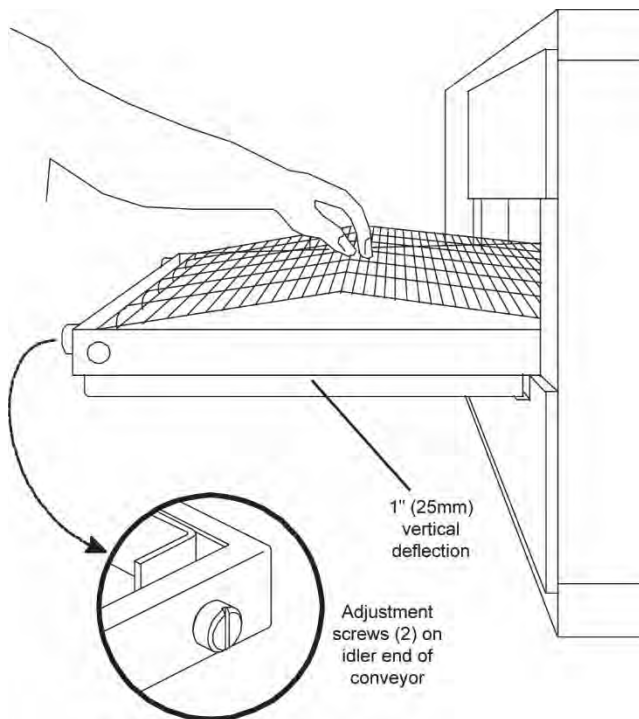

Figure 16. Conveyor Belt Tension
4. Check the tension of the conveyor belt as shown in Figure 16. The belt should lift about 1" (25mm). **DO NOT OVERTIGHTEN THE CONVEYOR BELT.**
NOTE: If necessary, the belt tension can be adjusted by turning the conveyor adjustment screws, located at the idler (non-control) end of the conveyor. See Figure 16.